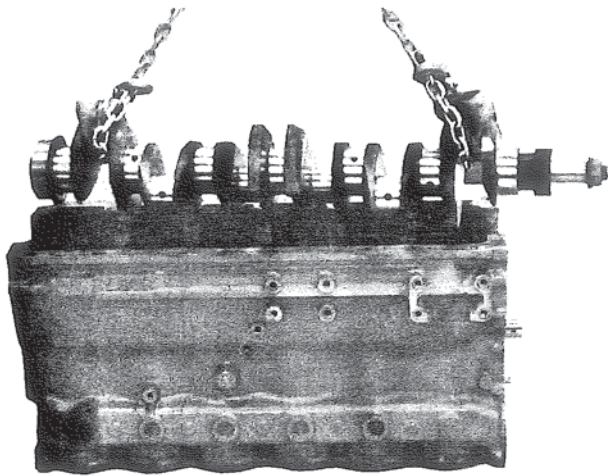

Figure 21. Removing Crankshaft.
C. Remove crankshaft by lifting straight up. Figure 21.